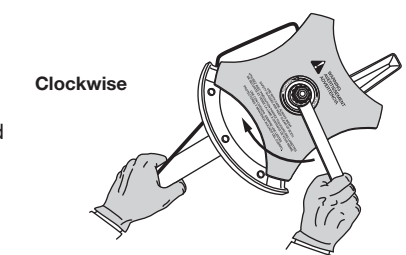

Fig. 14
2. Hold the locking rod in place by grasping it next to the shaft housing (Fig. 14).
3. While holding the locking rod, loosen the nut on the blade by turning it clockwise with a 1/2 inch closed-end or socket wrench (Fig. 14).